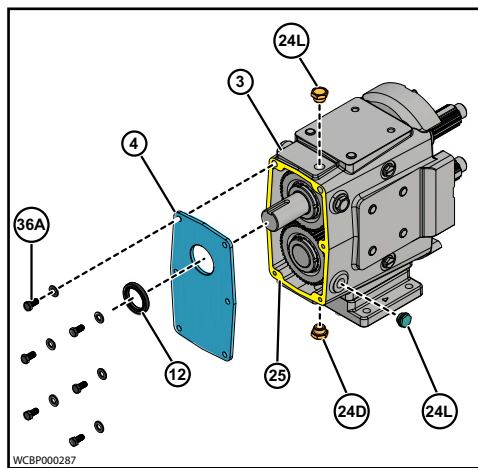

Figure 68 Remove Gear Case Cover
1. Remove the oil drain plug (Figure 68, item 24D); drain the oil.
2. Remove the cap screws from the gear case (Figure 68, item 33A).
3. Pull the cover (item 4) off the shaft extension. If the cover sticks, use a soft hammer to loosen it.
4. Remove the silicone sealant (item 25) from the gear case and cover.
5. Using an arbor press, remove the oil seal (item 12) from the cover. Discard the used oil seal.